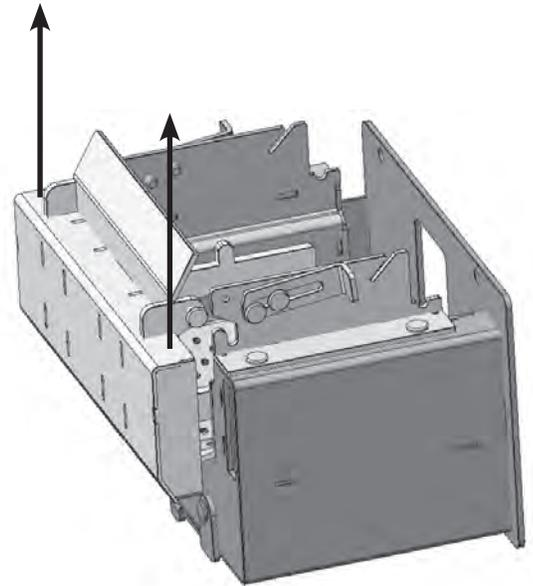

Figure 20
10. Remove the Flapper Door Assembly by lifting upward (Figure 20).